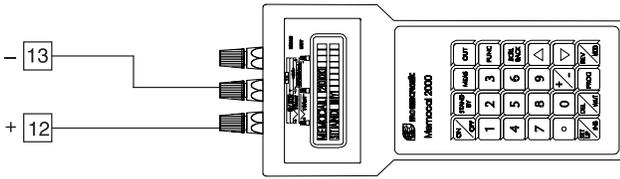

Fig.6
b) Connect the instrument under test to the calibrator as shown in Fig. 6.
- a) Set the calibrator to 1300 mV (see Fig. 6).